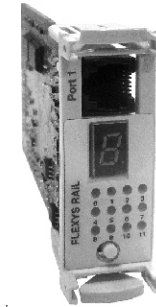

Figure 1.1 : Front view
- FL-RL-LG-X-X-X as shown in Figure 1.1 is used as a plug-in module in Flexys Rail and not as an independent module.